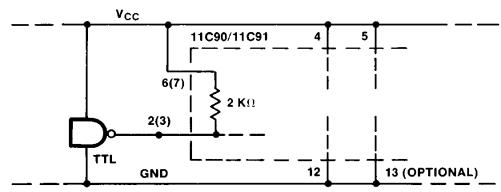

FIGURE 5. Using Internal Pull-Up with TTL Source
**Note 4:** The  $M_1$  and  $M_2$  threshold specifications are normally referenced to the  $V_{CC}$  potential, as shown in the ECL operation tables. Using  $V_{EE}$  (GND) as the reference, as in normal TTL practice, effectively makes the threshold vary directly with  $V_{CC}$ . Threshold is typically 1.3V below  $V_{CC}$  (e.g., +3.7V at  $V_{CC} = +5V$ ). A signal swing about threshold of  $\pm 0.4V$  is adequate, which gives the state  $V_{IH}$  and  $V_{IL}$  values. The internal 2 k $\Omega$  resistors are intended to pull TTL outputs up to the required  $V_{IH}$  range, as discussed in the Functional Description and shown in Figure 5.
When an M input is to be driven from a TTL output operating from the same  $V_{CC}$  and ground ( $V_{EE}$ ), the internal  $2\text{ k}\Omega$  resistor can be used to pull the TTL output up as shown in Figure 5. Some types of TTL outputs will only pull up to within two diode drops of  $V_{CC}$ , which is not high enough for 11C90 inputs. The resistor will pull the signal up through the threshold region, although this final rise may be somewhat slow, depending on wiring capacitance. A resistor network that gives faster rise and also lower impedance is shown in Figure 6.